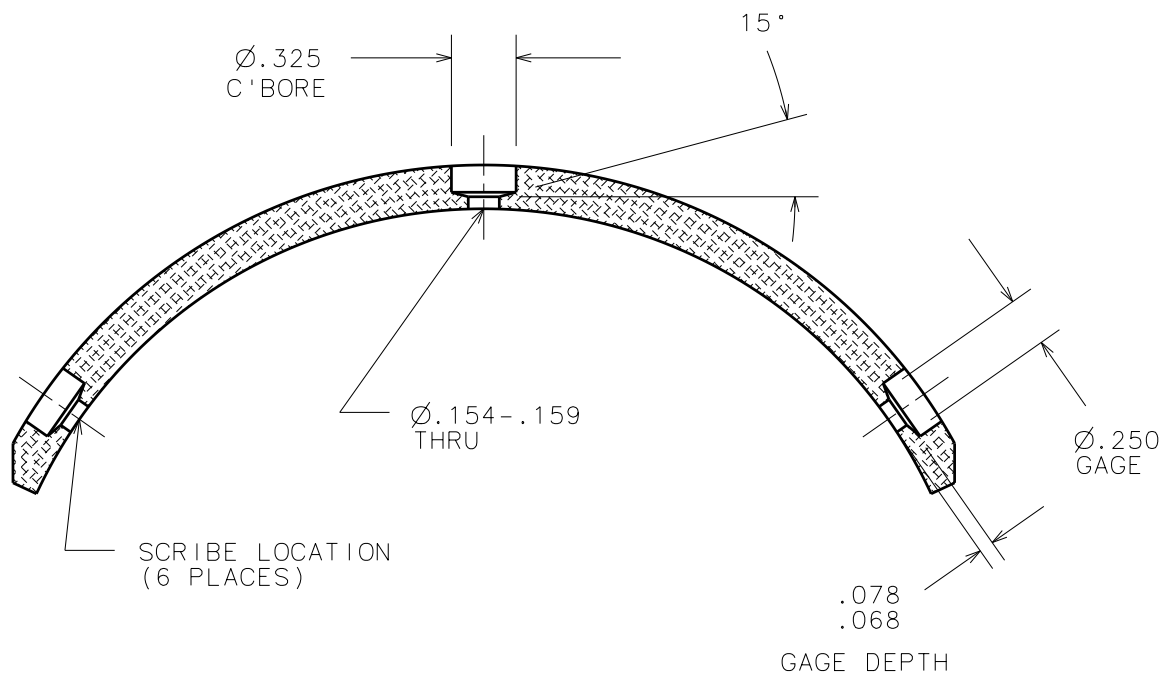

Figure 205 - Installation of 066-00504 Lining to Brake Shoe
- (5) Installation of 066-00504 Lining to Brake Shoe
- d Drill and counterbore lining as shown in Figure 205 (6 places).